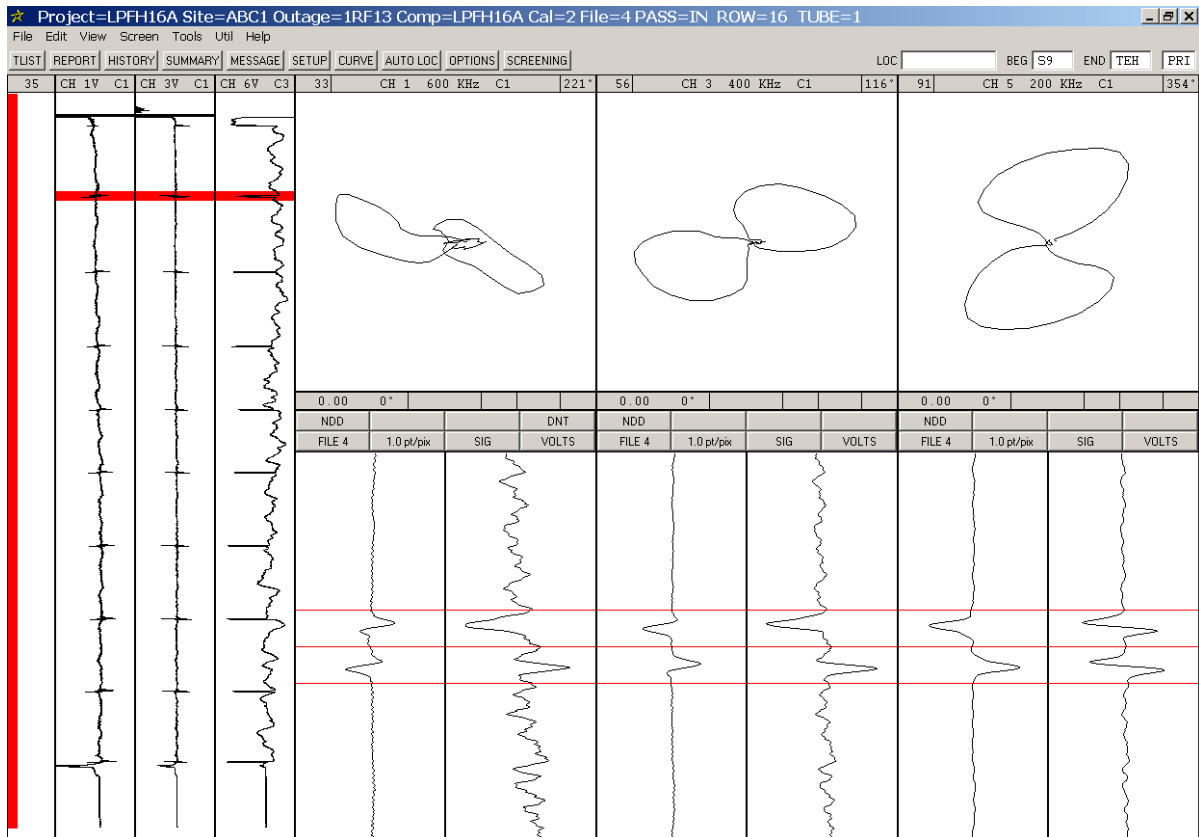

Figure 1-13. Tube Support Signal Prior to Mixing
- STEP 2:** Tube **IN-16-1** should be loaded. Locate, center, and trim down on the first TSP at the top of the long chart so that your screen appears to Figure 1-13. Balance as required.